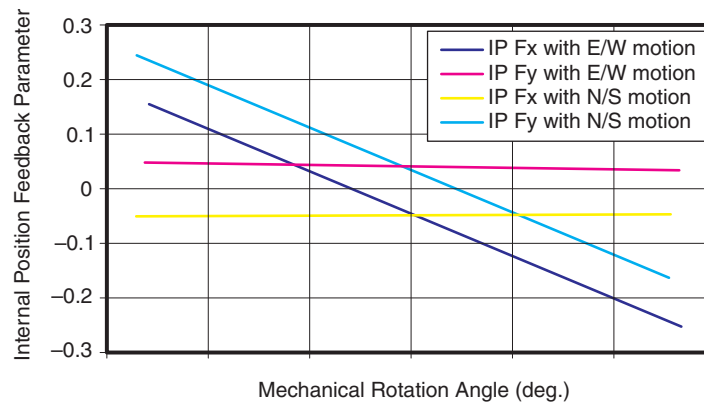

Figure 3. Position Feedback
7. Plots of the IPF parameters versus mirror position can then be constructed as shown in Figure 3.